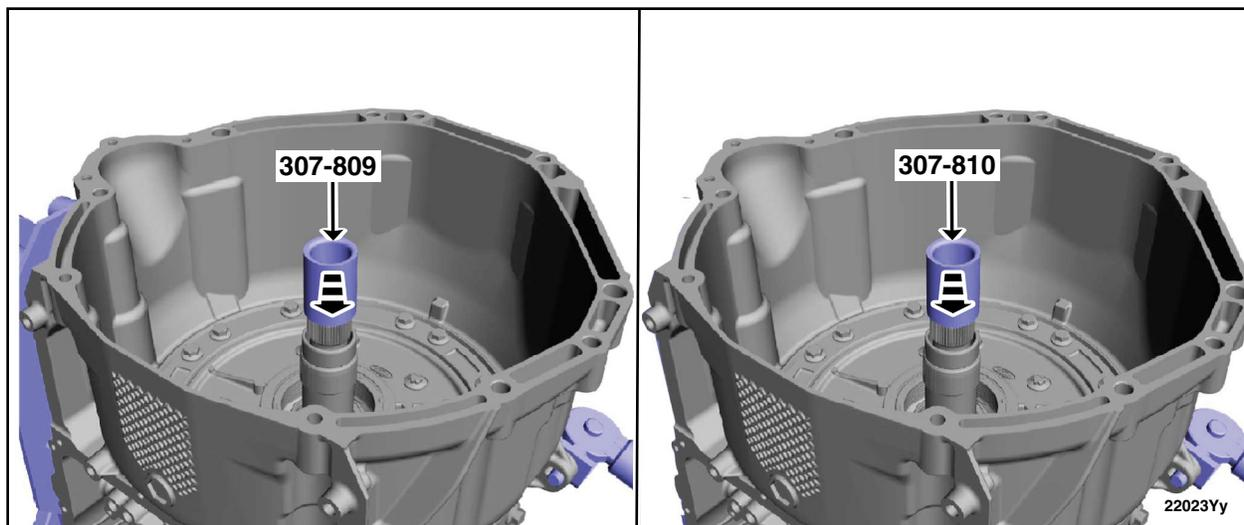

FIGURE 60
69. Using the Special Service Tool: 307-809 push & sizer, F0 Seal guide, pre-size the input shaft torque converter (F0) Teflon® seals, then using the Special Service Tool: 307-810 pusher & sizer, F9 Seal guide, final size the input shaft torque converter (F0) Teflon® seals. See Figure 60.